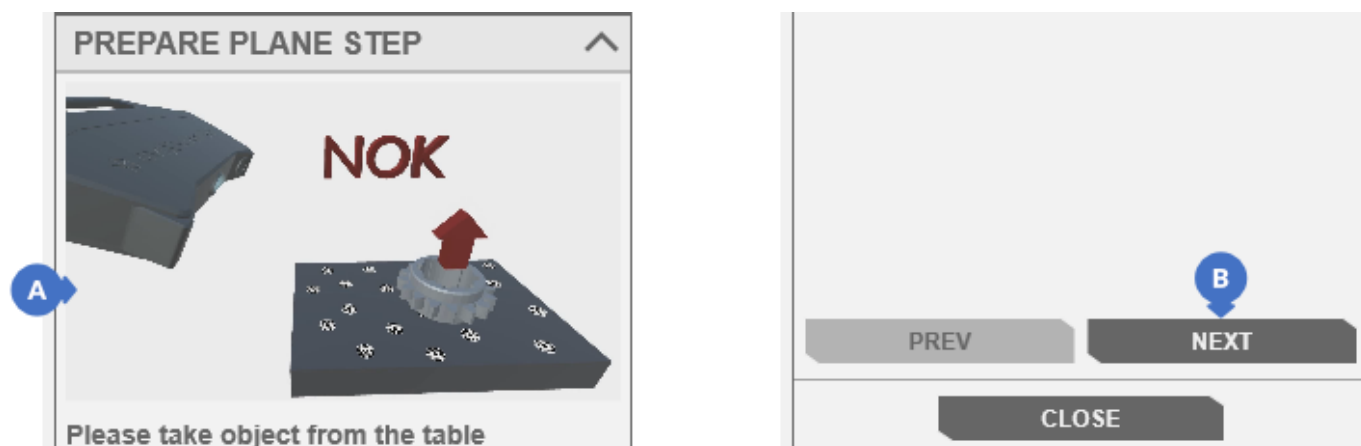
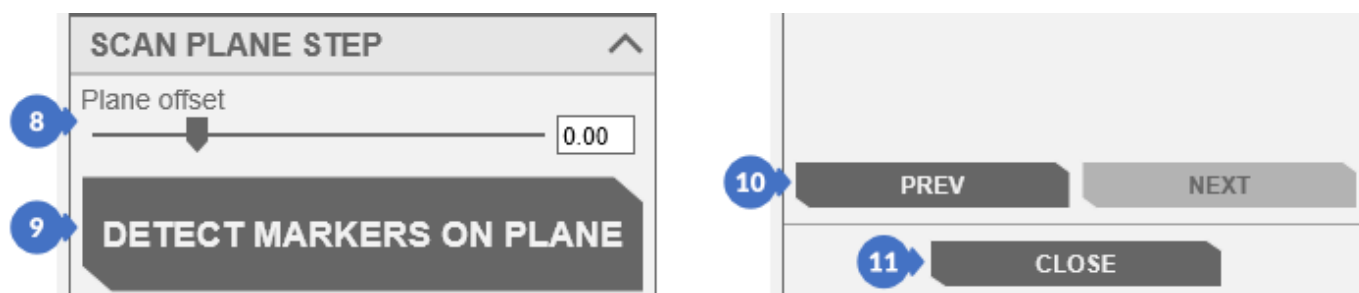

Figure 279. Preparing the plane for scanning – the automatic mode
Figure 281. Detection of markers on a plane
The first step of *PREPARE PLANE STEP* is to prepare the plane for scanning. All the controls included in it depend on the selected mode of the marker exposure (the Markers auto exposure option is in the Start menu in the Options tab, General options - selecting this option activates the automatic mode). In this step, remove the objects from its surface - this process is presented in the animation (A) (Figure 279) – in the automatic mode or (Figure 281) in the step with the manual mode. When the surface does not have any markers, stick them on.